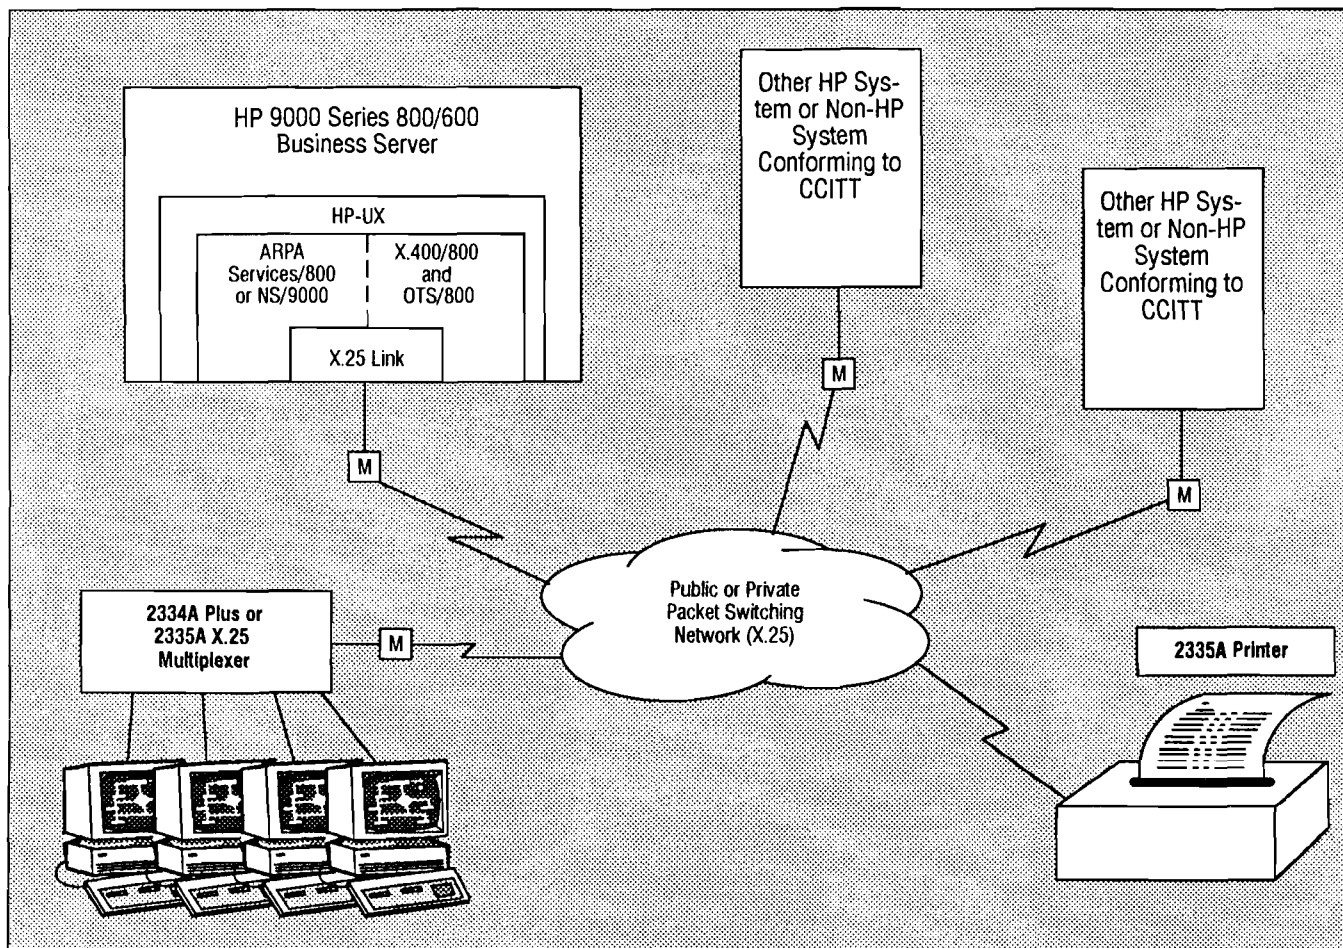

Figure 110. X.25 Communications for HP 9000 Series 800/600 Business Servers
X.25 Communication for Series 800 Business Servers is illustrated in Figure 110 below and summarized in Table 27, next page. Communication to remote terminals and printers are supported via an HP 2335A X.25 Multiplexer in addition to PAD emulation for remote terminals.